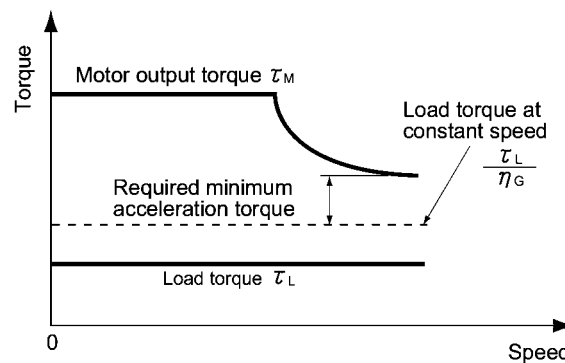

Figure 7.4 Example Study of Required Minimum Acceleration Torque
- 2) Calculate the required minimum acceleration torque (See Figure 7.4)